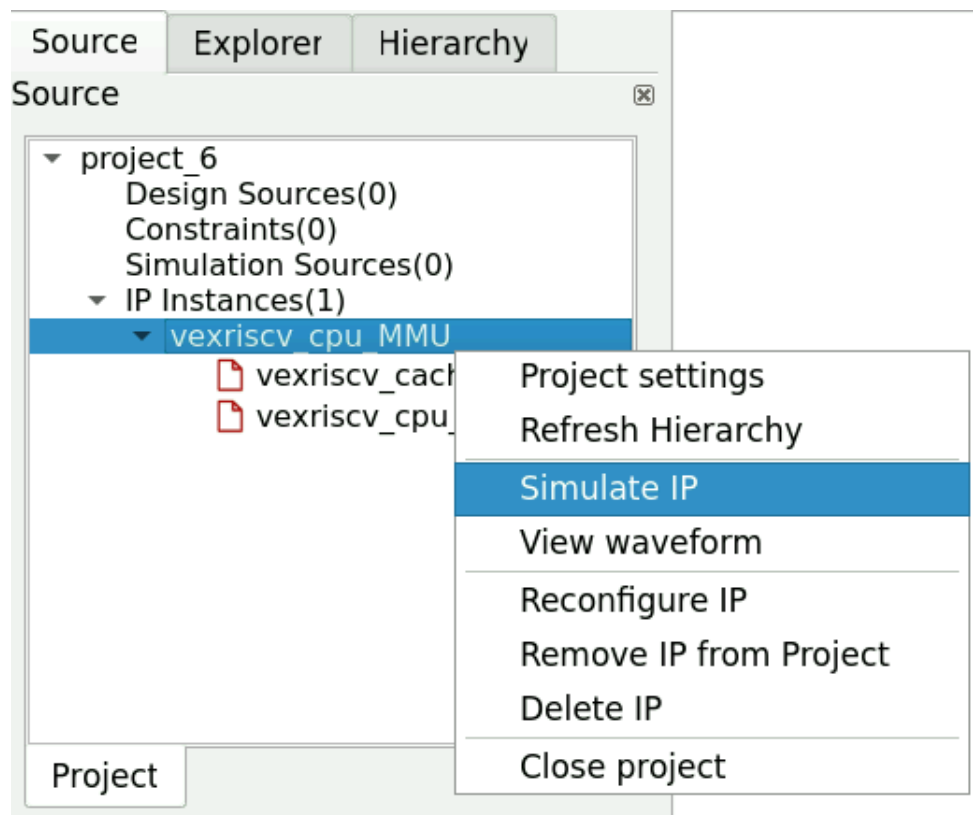

Figure 10. Simulate IP Window
- **Cached with MMU** This configuration of the processor is simulated via a firmware written in C++ that boots up this CPU with Linux Kernel. The testbench to boot Linux on this CPU is provided in the package and can be simulated easily by clicking the "Simulate IP" button after generating this specific configuration as shown in the figure 10.